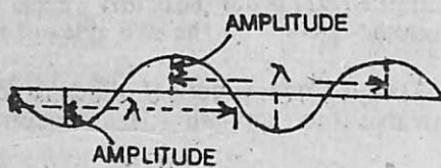

Fig. 36.2
**Amplitude.** The maximum distance covered by the vibrating particle on either side of its mean position is called amplitude (Fig. 36.2)
**Ans.** It is the distance travelled by the wave during the time the vibrating particle or any other particle of the medium of propagation completes one vibration. It is denoted by the letter  $\lambda$  (Fig. 36.2).